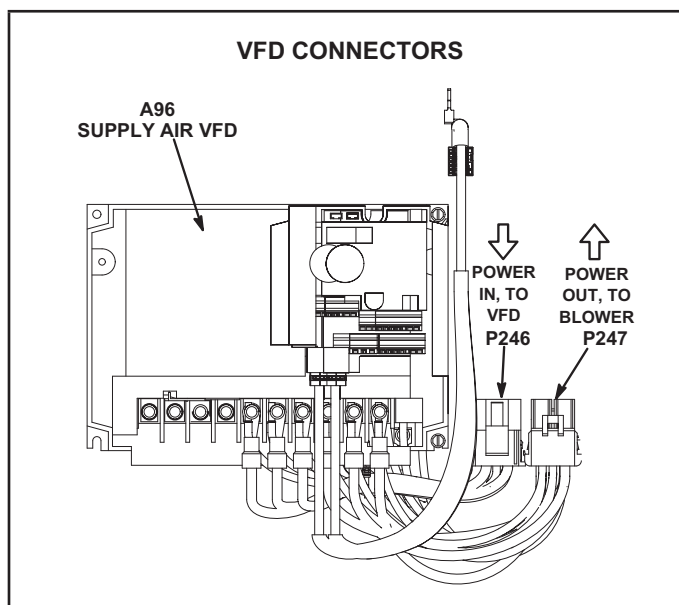

FIGURE 38
2. Locate P246 and P247 connectors near the VFD. See FIGURE 38.